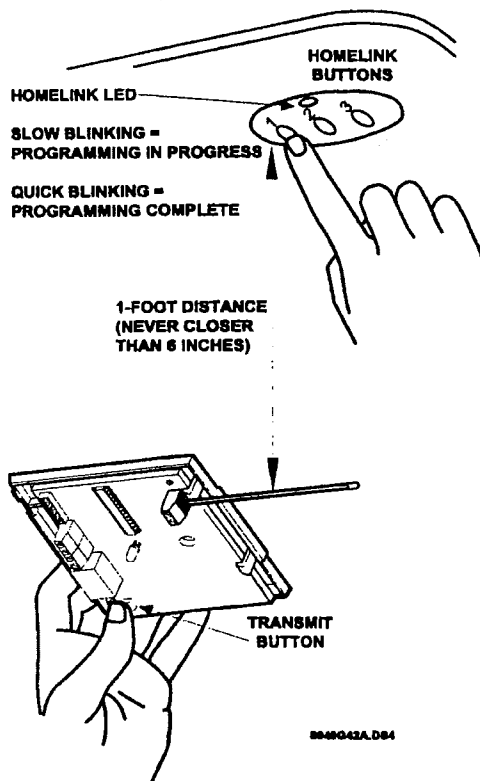

Figure 4. Pressing the Interface Transmit Button and HomeLink Button 1 Together for Programming
- 2) Hold the Interface one foot from the HomeLink buttons. Then, using both hands, press and hold the Interface transmit button and HomeLink button 1 as shown in Figure 4.